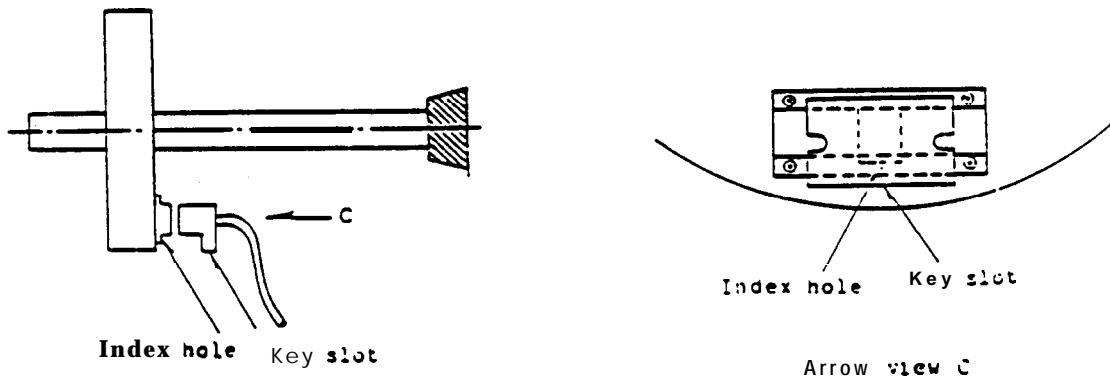

Fig. 6.5 Mounting onto a flat surface on the load side of the rotating **body**
- (2) When the mounting surface **is** on the spindle load side, mount so that the index hole and key groove are on the circumference side, as **shown** in Fig. 6.5.